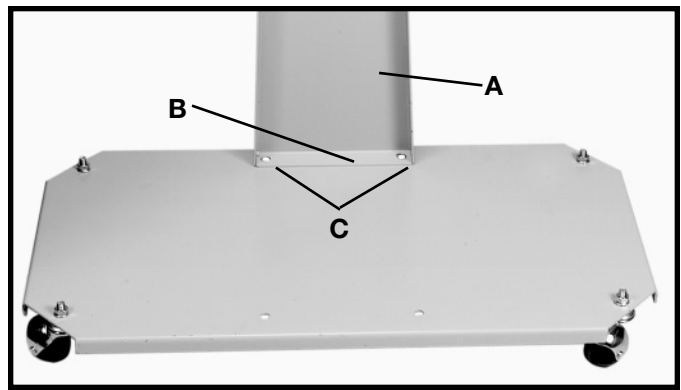

Fig. 5
1. Place the dust collector base (A) Fig. 5, in an upright position as shown.
2. Align the two holes in the wider end of the side support (B) Fig. 5 with the two holes (C) in the base.